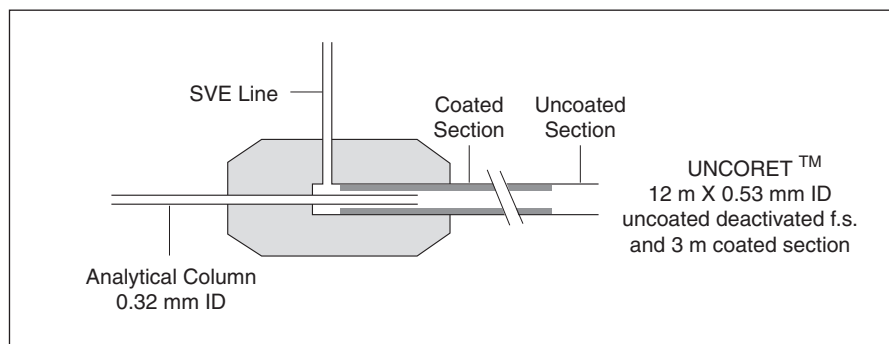

Figure 15-6. Uncoret™ Pre-Column/Column Connection
4. Insert the analytical column end through the tee connector as shown in Figure 15-6.